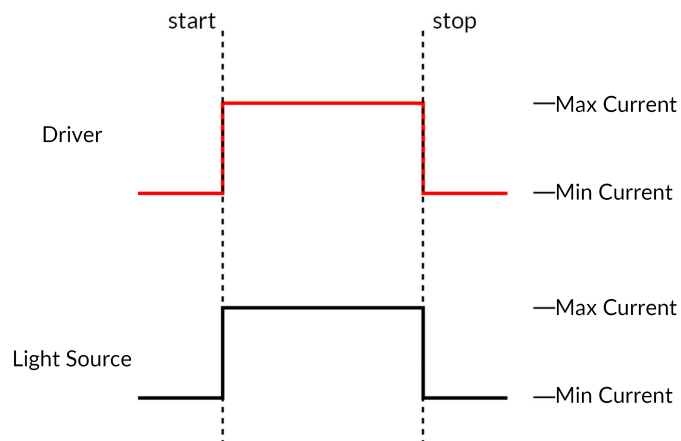

Figure 4.3: Continuous Wave Mode Driver Signal
a) The **Continuous Wave** mode (Fig. 4.3) produces a continuous signal at the chosen current. This mode can only be triggered manually. When this mode is active, the driver channel will show **CW** under **MODE**. This mode has no additional sequence options.